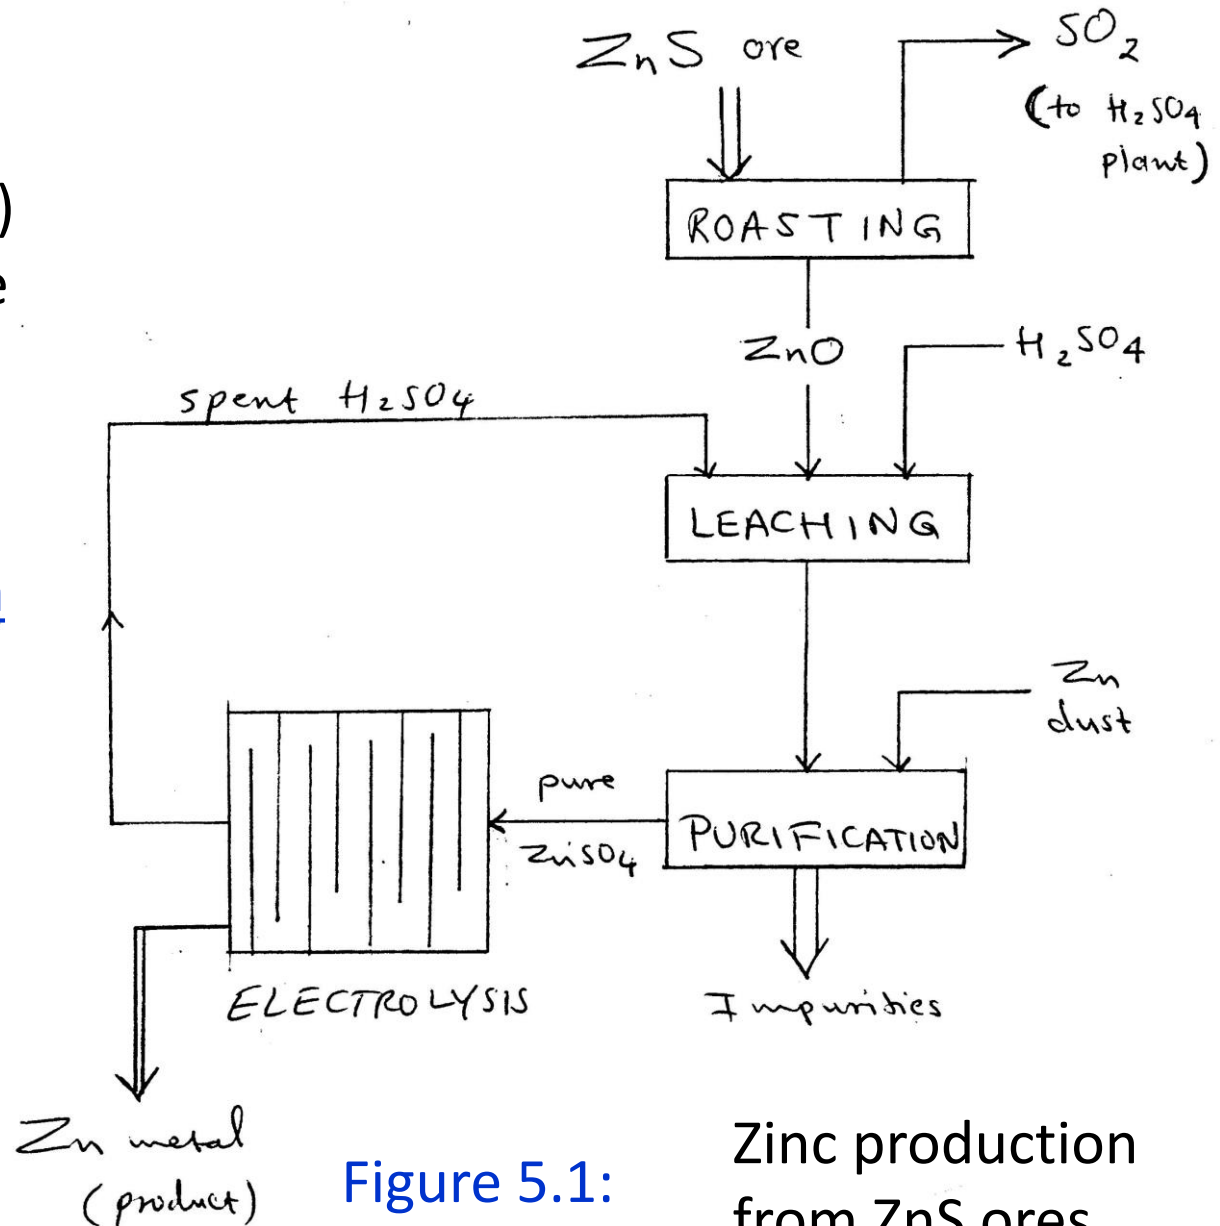

Figure 5.1:
A) Leaching by dissolving the ore in a suitable acid (see Figure 5.1 & 5.2: